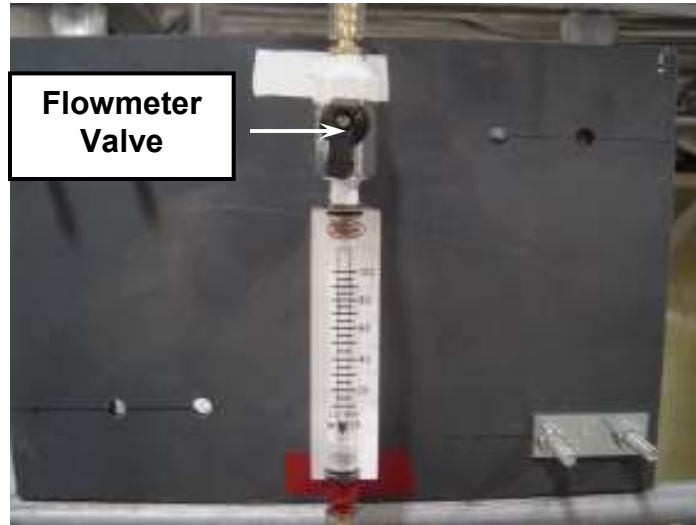

Figure 3: Flowmeter Valve on Alum Flow Control Manifold
5. Adjust the Flowmeter Valve on the Alum Flow Control Manifold (see Figure 3) until it is fully open (open the valve).
The Flowmeter Valve on the Alum Flow Control Manifold (shown in Figure 3) is used to adjust the alum concentrate injection flowrate. Open the valve to increase the injection flowrate, and hence increase the alum concentration in the raw water. Conversely, close the valve to decrease the injection flowrate, and hence decrease the alum concentration in the raw water. Read the flowrate at the middle of the ball in the sight glass.